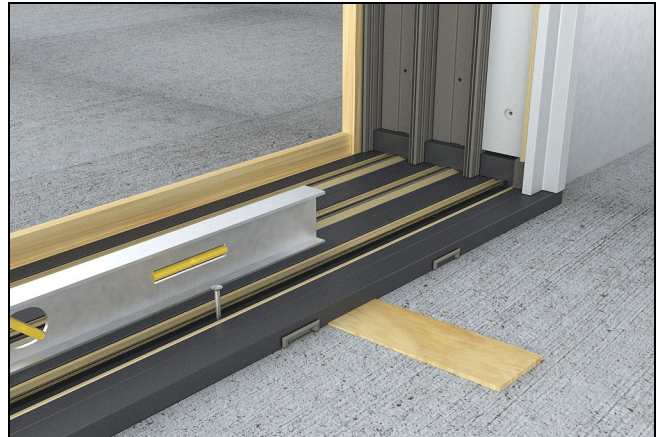

Figure 92
2. Place the frame into the opening and position. Begin to install anchor screws to secure the sill. See figure 92. After installing a few anchor screws, place a level on the sill and begin the sill leveling process, making sure that the sill is level. *NOTE: If sill has to be shimmed, the distance between shims should be 12" on center maximum.*